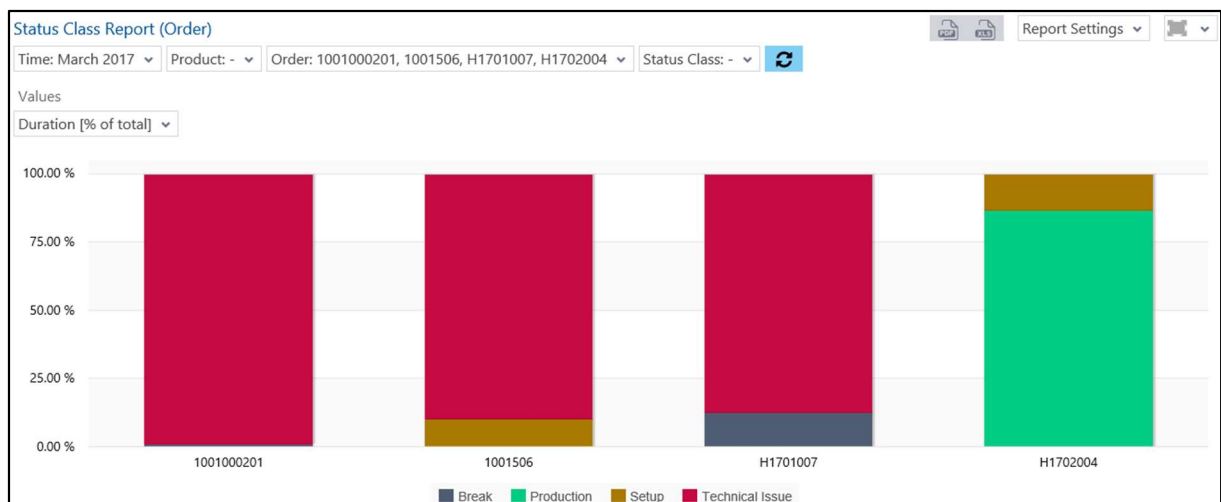

Fig. 75: Operating State Class Report (Order) as a column chart
- Operating State Class Report (Order) as a column chart (Fig. 75):